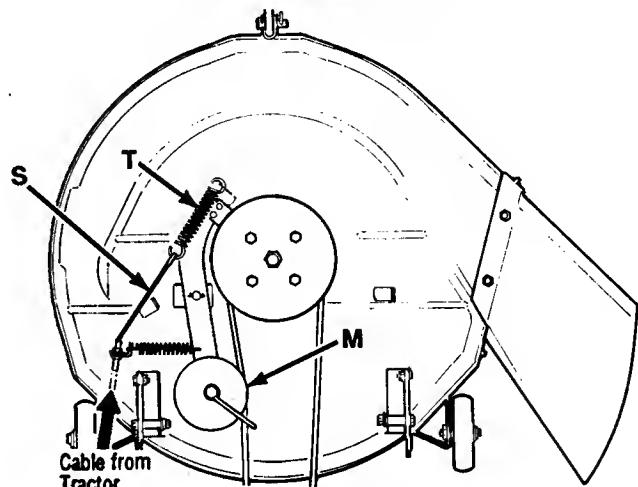
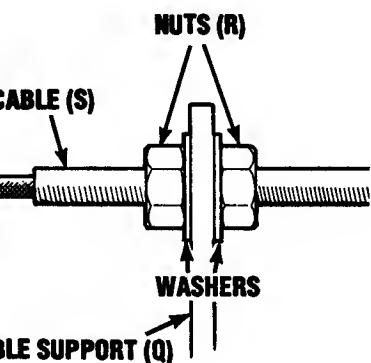

Fig. 18
Fig. 20
With mower lift lever (See page 18, Item I) in the disengaged position, adjust cable (S, Figs. 18, 20, & 21) at nuts (R, Fig. 20) until all slack in cable has been taken up. **WHEN ADJUSTED, SPRING (T) SHOULD NOT BE UNDER TENSION.**